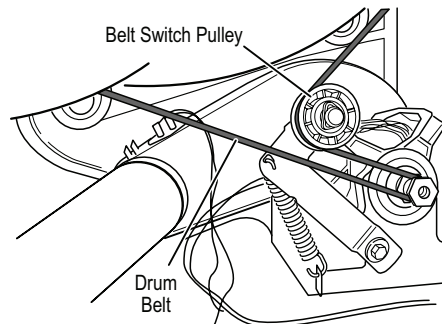

Figure 7. Carefully remove drum belt.
4. Check the belt switch and drive motor. Access the belt switch and drive motor by removing the back panel. Carefully remove the drum belt from the spring-loaded belt switch pulley, gently letting the belt switch pulley down. See Figure 7.